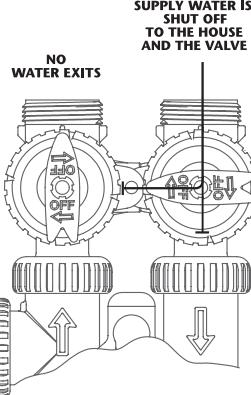

FIGURE 4
4. SHUT OFF POSITION: The inlet handle points to the center of the bypass valve and the outlet handle points away from the control valve. The water is shut off to the building. The water treatment system will depressurize upon opening a tap in the building. A negative pressure in the building combined with the unit being in regeneration could cause a siphoning to the building. If water is available on the outlet side of the unit, it is an indication of water bypassing the system (Fig. 4) (i.e. a plumbing cross-connection somewhere in the building).